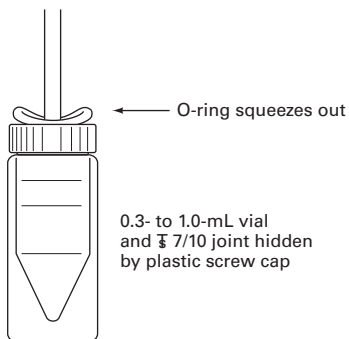

FIGURE 5.3 O-ring squeezes out with T 7/10 joint.
2. **A 0.3- to 1.0-mL conical vial and T 7/10 joint** (Fig. 5.3). The T joint rattles around in the hole in the plastic caps for this size. As a consequence, whenever you tighten these joints, the O-ring squeezes out from under the cap. Yes, the joint's tight, but gas-tight? You can pull the joints apart with modest effort, and, if the O-ring has squeezed out entirely, forget the cap as a stabilizing force.